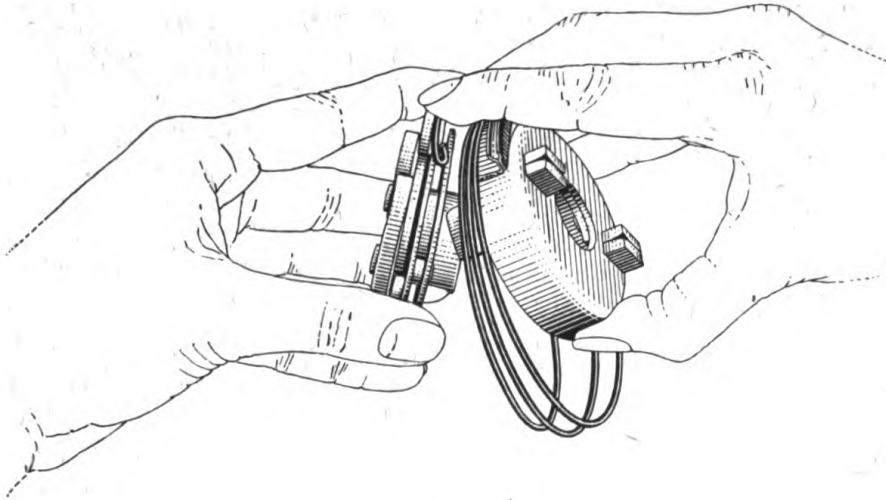

Fig. 55
44. In assembling impulse coupling be sure hub is free in the shell. Try this before assembling spring. In assembling the spring, hook coil on end of spring over the support which holds it by placing the spring in groove and twisting down as shown in Fig. 55. This locks the spring so it cannot come off support.